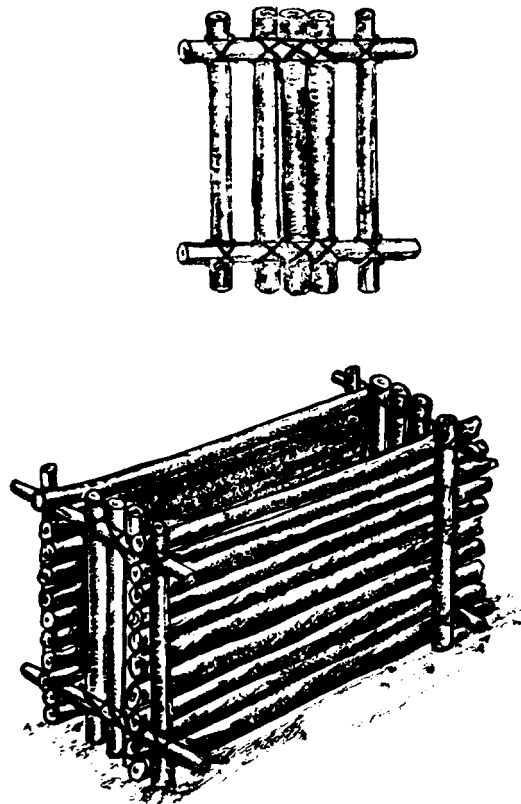

Figure 4-16 Ice-crete Defences - Type 2
- b. Type 2. Cut logs the required height of the walls; and lay them side by side. The number of logs will depend on their thickness, but they should, when placed together, be one foot across. Across the top and bottom of these logs lash a crosspiece. The crosspiece should be about two inches thick and two feet long. Take two more uprights and lash them to the crosspieces, leaving a gap of about three inches. Make two of these frames. Standing the frames upright, lay logs one on top of the other with the butt ends being alternated in the gaps of these frames. This will end up like a rectangular box shape one foot thick. To make a form for a thicker wall simply add more uprights and use longer crosspiece (see Figure 4-16).